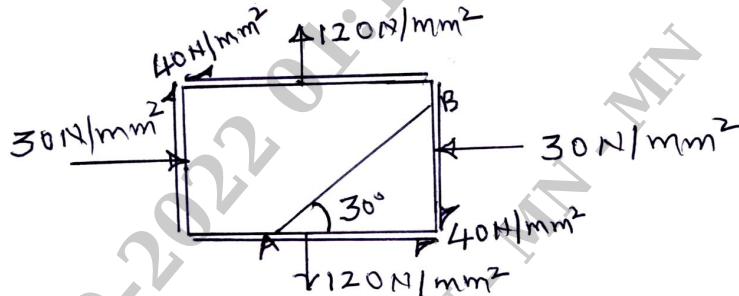

Fig.Q4(c)
- c. At a certain point in a strained material the stress conditions shown in Fig.Q4(c). Determine: